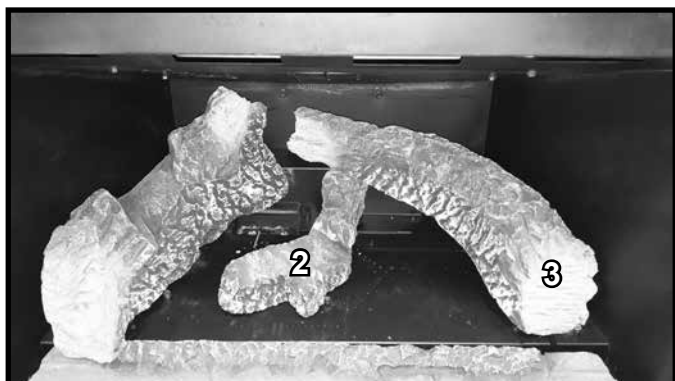

Figure 5. Log #3 Installed
**LOG #3:** With the burnout of Log #3 facing left, line the big end up with the edge of the basepan and the firebox wall or refractory. The small end will sit half on the end of Log #2 and half on the air scoop as shown in Figure 5.